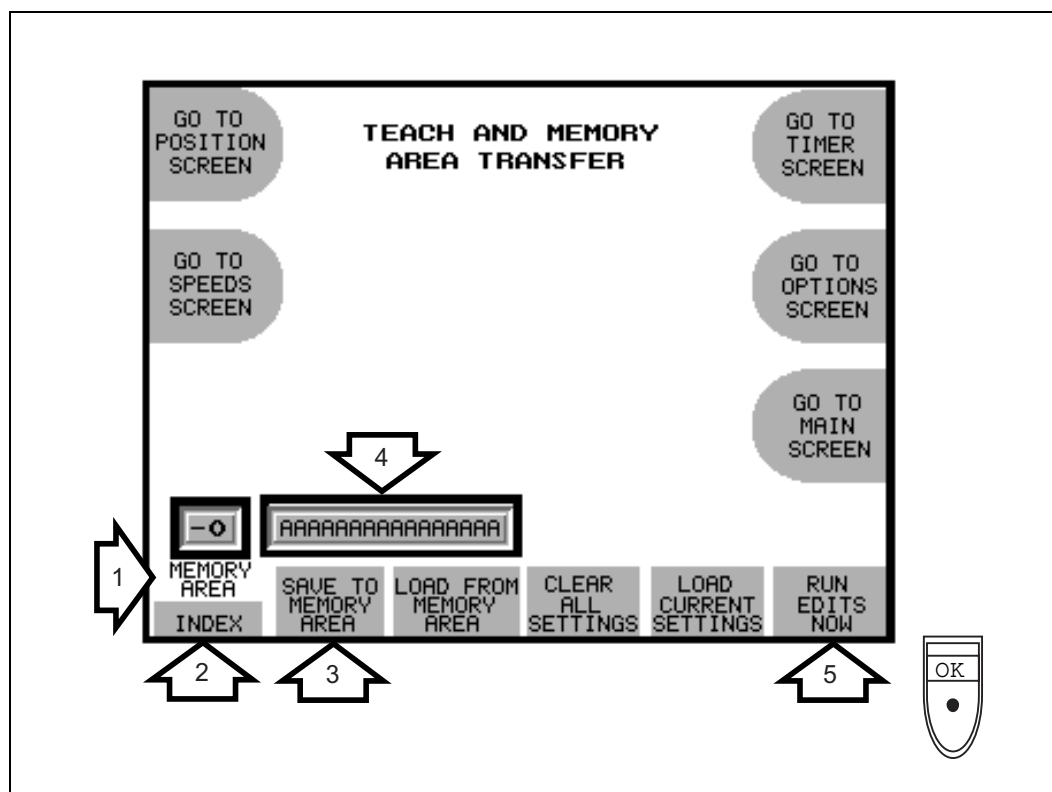

Figure 7-26: Teach and Memory Area Transfer Screen
17. Press the **TEACH SCREEN LIST** key (#4) to return to the Teach and Memory Area Transfer Screen (Figure 7-26).
Use the MEMORY AREA field (#1 on Figure 7-26) to assign a program to a memory area and to name the program.
1. Press the directional arrow keys to move to the MEMORY AREA field (#1 on Figure 7-26).